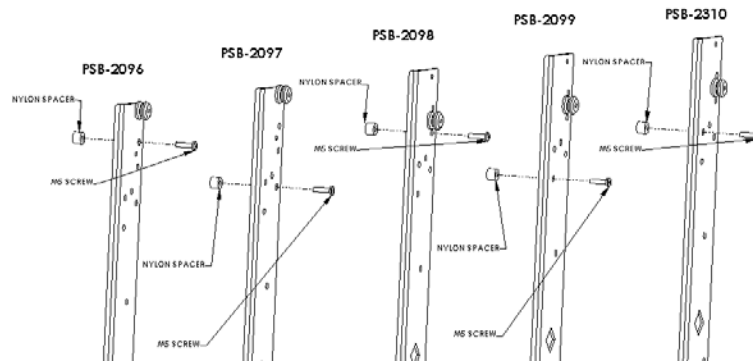

Figure 4
- Place Nylon spacers on mounting holes and align hole pattern on brackets with pattern on back of Plasma Display (see Figure 4 & Figure 5a, 5b, 5c, 5d or 5e).